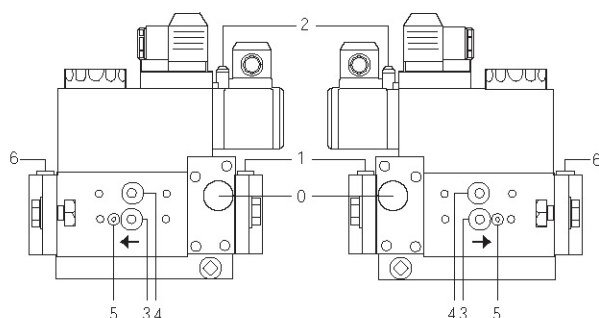
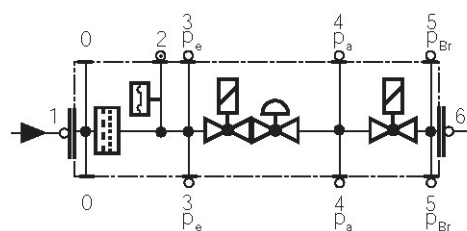

Fig. 34
Fig. 35
- Change the filter if the pressure difference between pressure connection 1 and 3 (Fig. 34-Fig. 35) is $\Delta p > 10$ mbar.
- Change the filter if the pressure difference between pressure connection 1 and 3 (Fig. 34-Fig. 35) is twice as high compared to the last check.